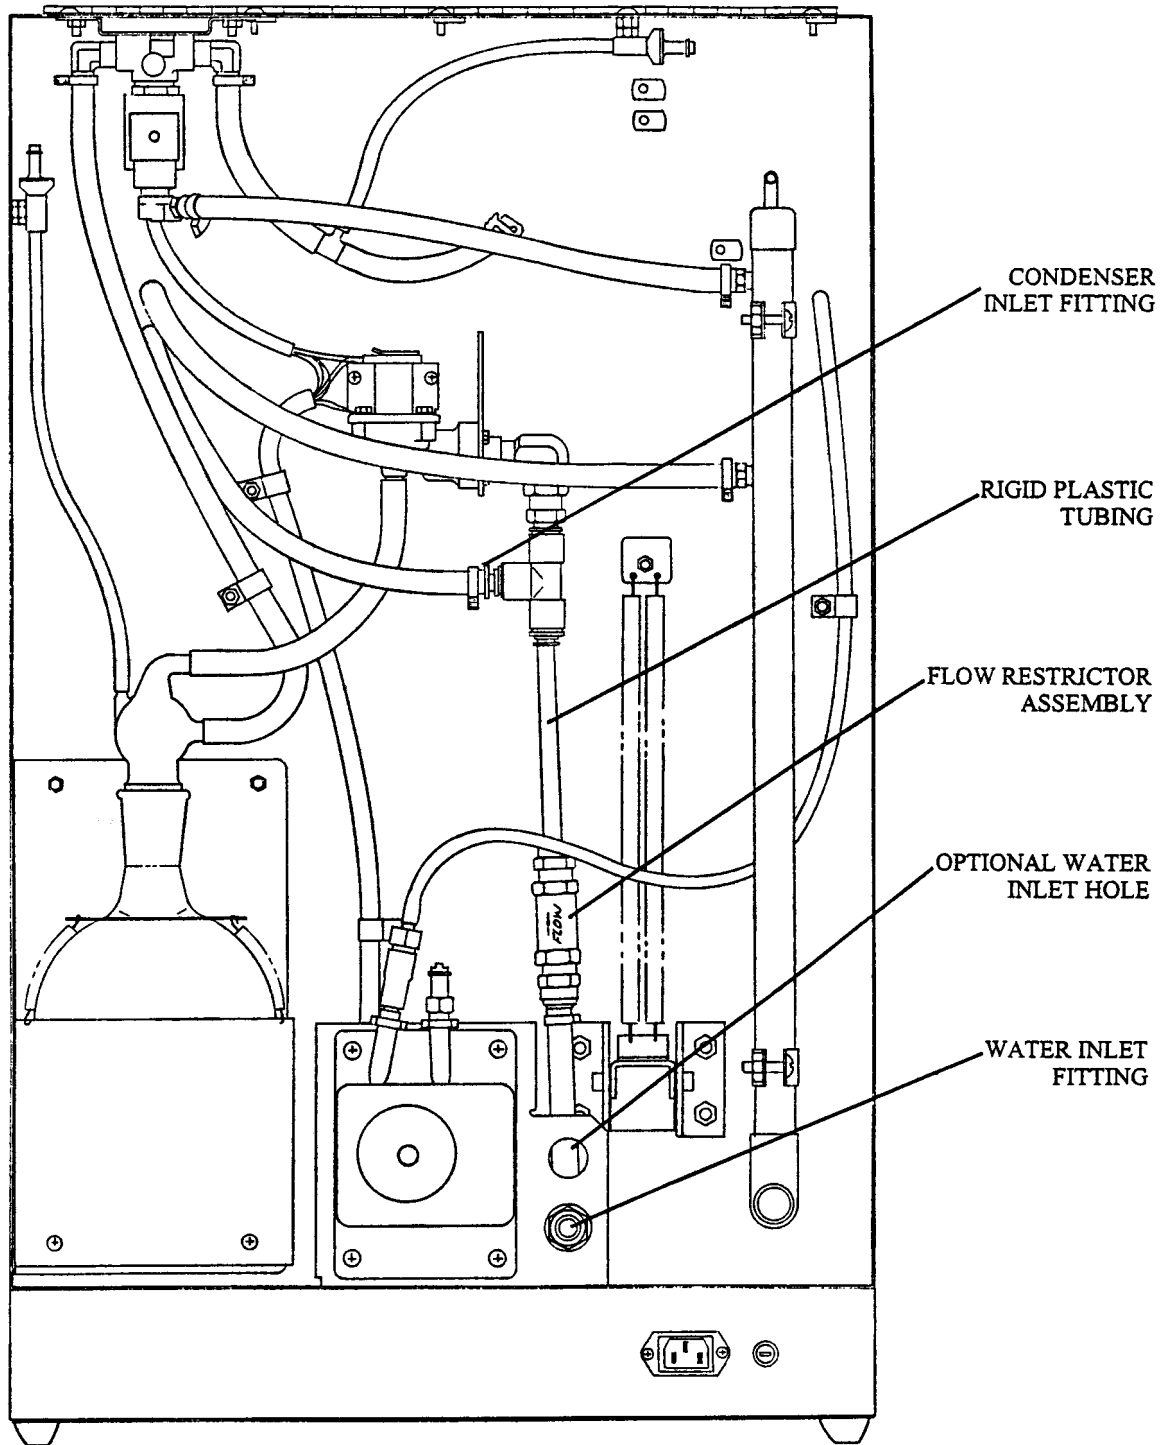

Figure 5
- (1) Unplug the RapidStill II and disconnect the feed water and drain lines, so the unit can be turned around.
- (2) Turn the unit around and locate the water inlet fitting as shown in Figure 5.
- (3) Locate the optional water inlet hole just above the water inlet fitting, as shown in Figure 5.
- (4) Install the supplied bulkhead union in a manner similar to the water inlet fitting below it. DO NOT overtighten the nut on the bulkhead union; it may damage the fitting.
- (5) Remove the flow restrictor assembly from the T-shaped fitting. Discard the short length of rigid plastic tubing that runs from the outlet of the flow restrictor to the T-shaped fitting.
- (6) Disconnect the condenser inlet fitting from the T-shaped fitting, as shown in Figure 5.